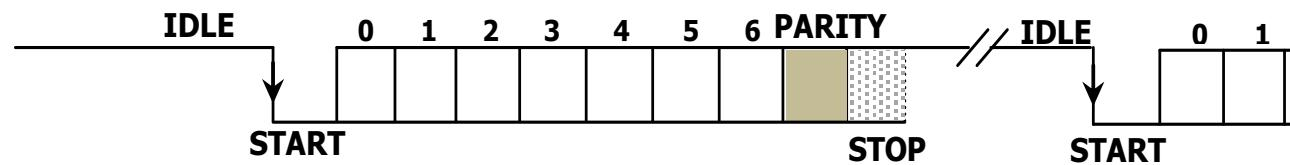

Figure 8.61 7 Bits + Parity + 1 Stop Bit data framing.
- Figure 8.61 shows an example of using **7** data bits with **1** parity and **1** stop bit protocol.